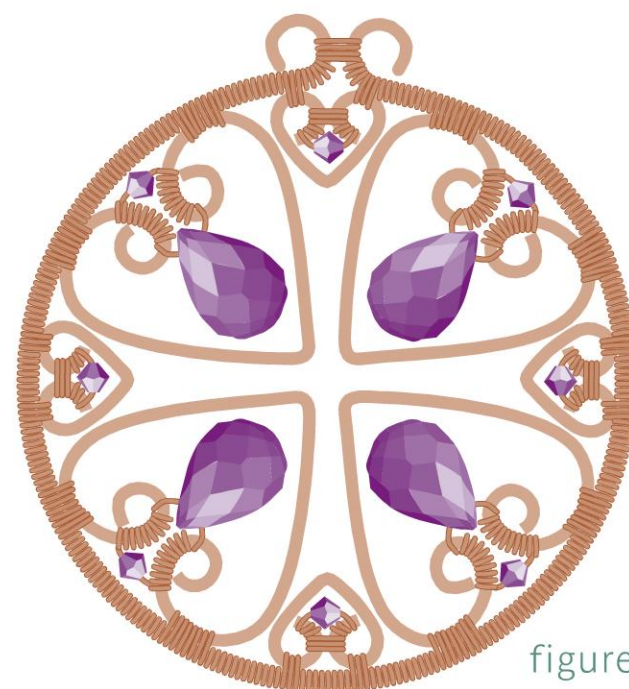

figure 12
**29** Use the beginning 2" (5.1 cm) 26-gauge wire tail to coil up to the base of the two loops on the outer frame. Trim all 26-gauge wire tails (Figure 12).